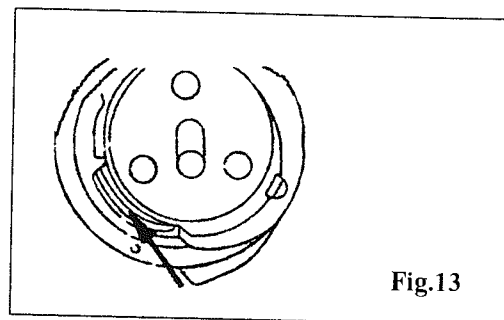

Fig.13
### 5) OILING THE ROTATING HOOK (Fig.13)
① Take the bobbin capsule out and drip one or two drops of oil into the rotating hook path (fig 13) once daily.
② Then put the bobbin capsule back in.